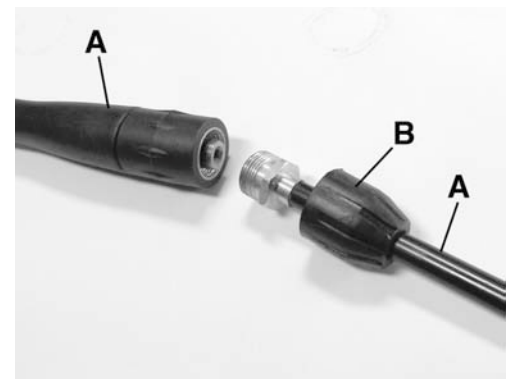

Figure 3
Assemble the 2 piece stainless steel wand (A) Fig.3. Lower the rubber piece (B) to expose the threaded fitting and screw the 2 pieces together, reposition the rubber piece. It is recommended to install Teflon tape on the threads to prevent water leakage.